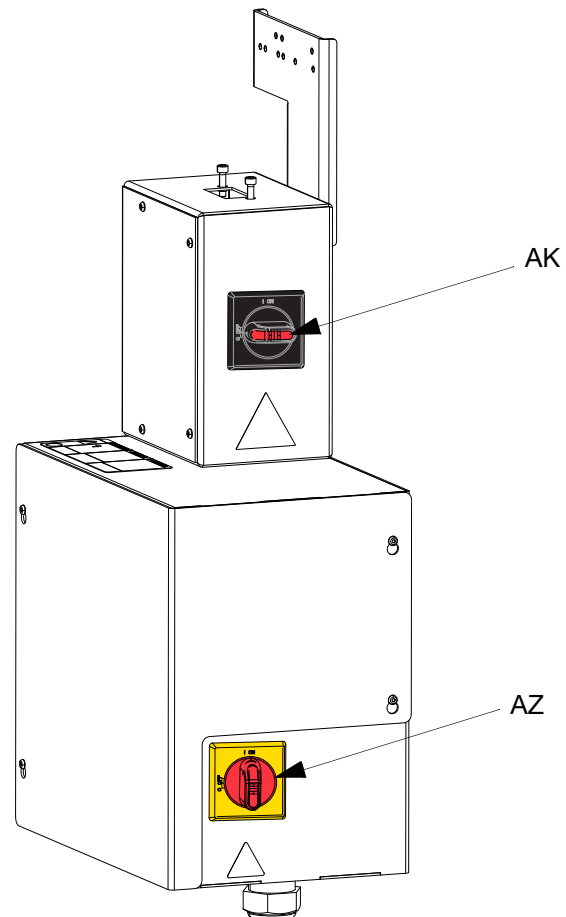

FIG. 31. Power Disconnect
1. Turn off power to the Electric Driver (AB):
- a. Turn the black Power Junction Box Switch (AK) OFF. See FIG. 31.
- b. If using a Tandem Ram Supply System, turn the black Disconnect Switch (AZ) OFF on the Ram Supply Unit that requires a drum change only. See FIG. 31.